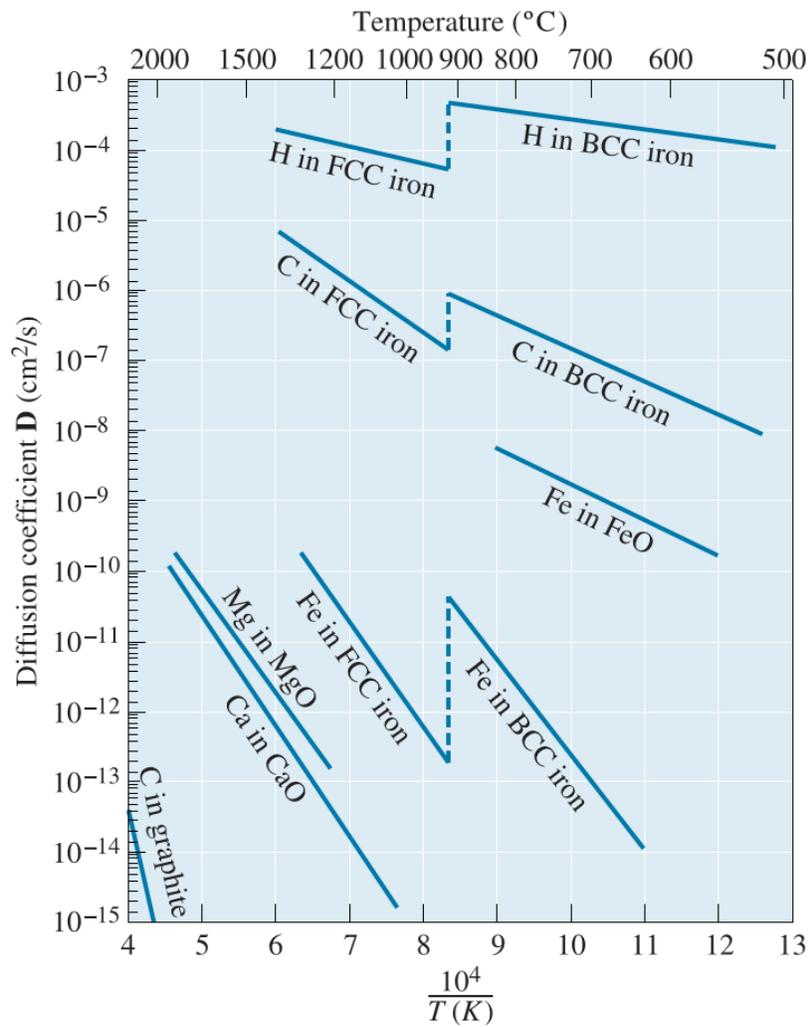

Figure 5. The diffusion coefficient  $D$  as a function of reciprocal temperature.
- Figure 5 shows an Arrhenius plot for some metals and ceramics. Assume the metal powder used for the SLS process is iron with a BCC structure. Read Figure 5 and calculate the required activation energy (the gas constant  $R = 8.314$  J/mol).